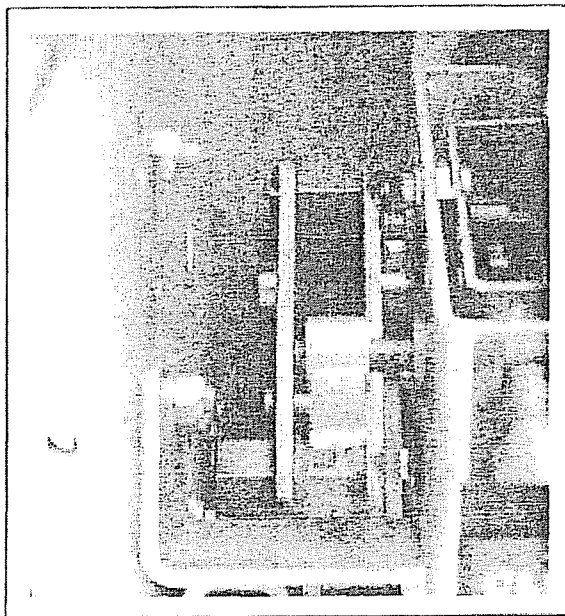

Figure 27
3. Disconnect the mechanism main link from the mechanism operating arm by removing the spring clip and pin located behind the main operating mechanism. See Figure 27.
7. Reconnect the mechanism main link to the mechanism operating arm with the pin and spring clip. See Figure 27.